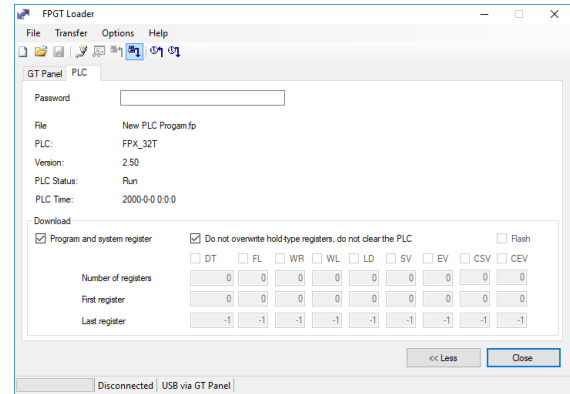

Figure 5
- 11) The new program is now installed, and the PLC is running. (Figure 5)